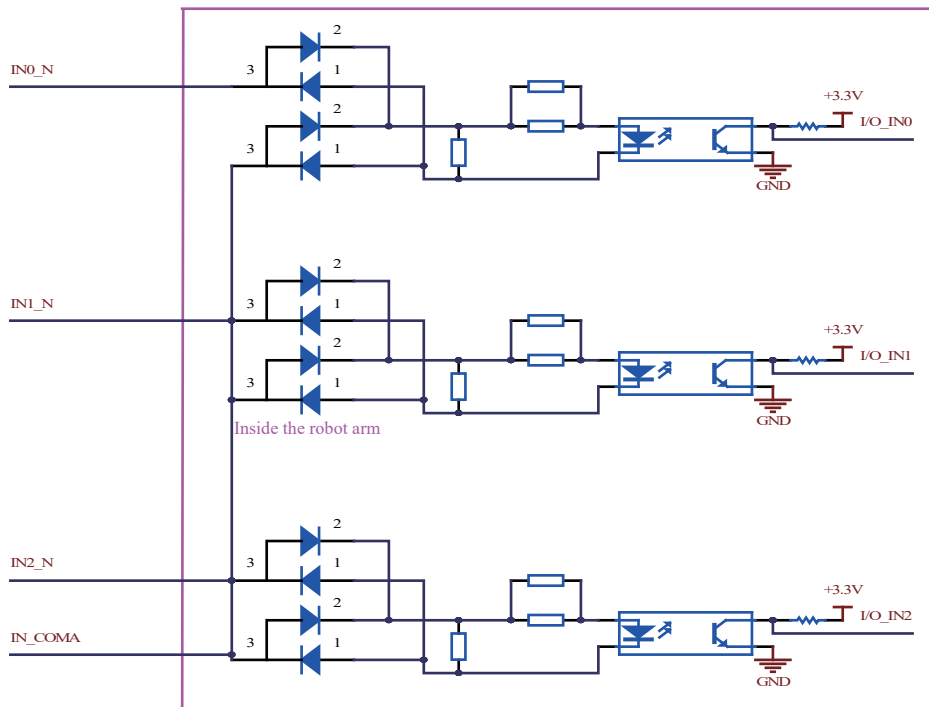

Figure 5
(4) J4 I/O input port internal control circuit design (shown in Figure 5)